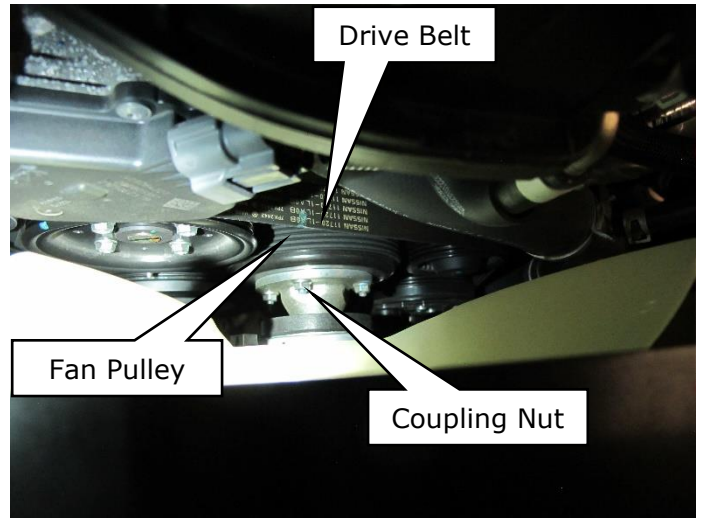

Figure 7
- a. Drive belt and fan pulley (Figure 7): **Must not have any damage.**
- b. Missing fan coupling nuts (Figure 7): **Must have (4) present.**